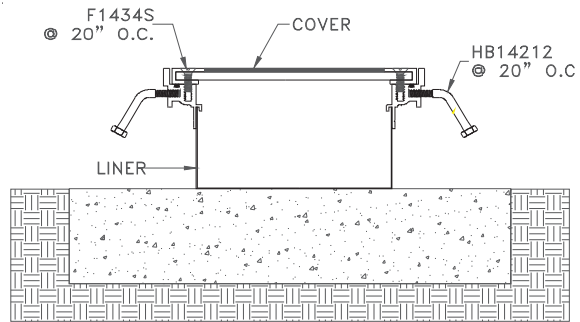

Figure 3
STEP 4. Assemble the trench cover on the support pad, splicing the liner and frame sections of the assembly in accordance with the procedures provided in the appropriate sections of these installation instructions (see Figure 3). Refer to the section of these instructions entitled "SPlicing TRENCH AND ACCESS COVER FRAMES" and the section of these instructions entitled "SPlicing TRENCH LINERS" for procedures for assembling the frames and liners. Place the trench cover into the assembled frame. Ensure that the cover is properly aligned.